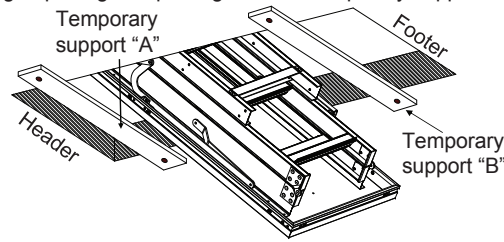

Figure 6 Placing the attic ladder into the Rough Opening
H. Both installers need to work together to position the attic ladder on the temporary support boards. When Installer #2 is in the attic and ready to assist, Installer #1 will raise the attic ladder into the rough opening. See Figure 6. Installer #1 must not climb a ladder while lifting the attic ladder into the rough opening, or they could fall. If the ceiling height or weight of the attic ladder makes lifting difficult or impractical, secure a rope to the attic ladder. Installer #2 can then assist by helping raise the attic ladder into the rough opening and placing it on the temporary support boards.